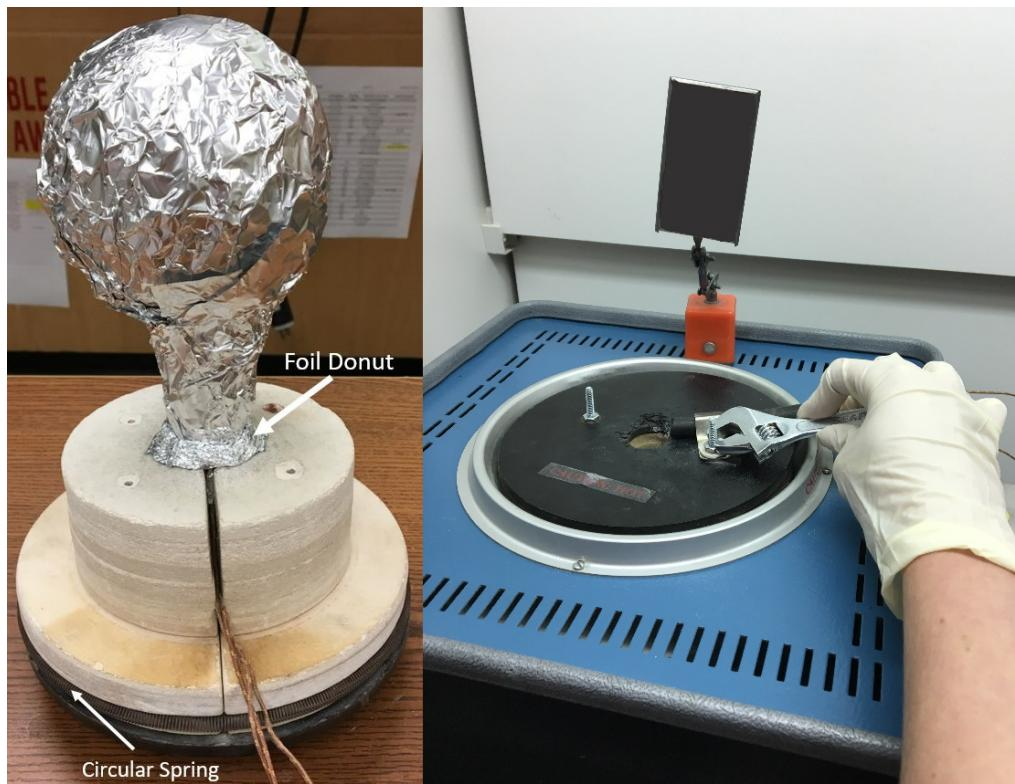

Figure 10: Final state of the flask/lid assembly; Tighten hose clam with a wrench
12. See Figure 10 for the final flask/lid assembly before insertion into the furnace
19. Tighten the nut on the bracket hand tight and then give a half turn with a wrench to secure the nut (See Figure 10)